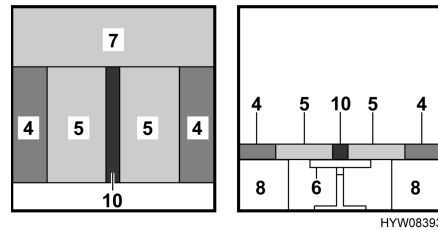

Fig. 37 After conversion
- Place the back cushions (Fig. 37,4) against the exterior wall. Observe the wedged form.
- Insert the two seat cushions (Fig. 37,5) between the back cushions.
- Push the additional cushion (Fig. 37,10) between the seat cushions (Fig. 37,5).